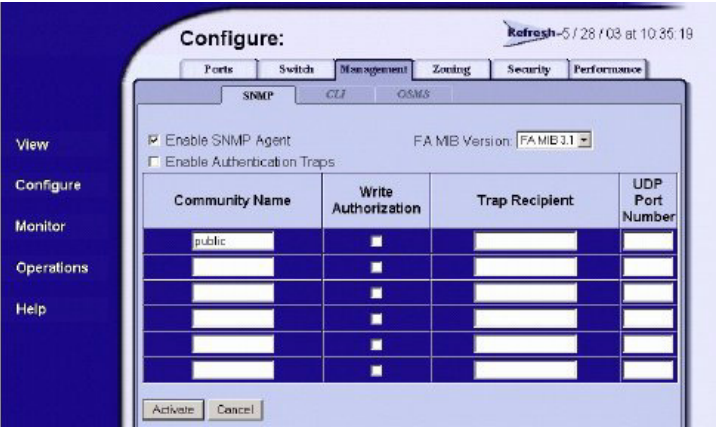

Figure 49: Management page—SNMP tab
2. At the Configure window, click the **Management** tab. The **Management** page displays with **SNMP** tab selected (Figure 49).